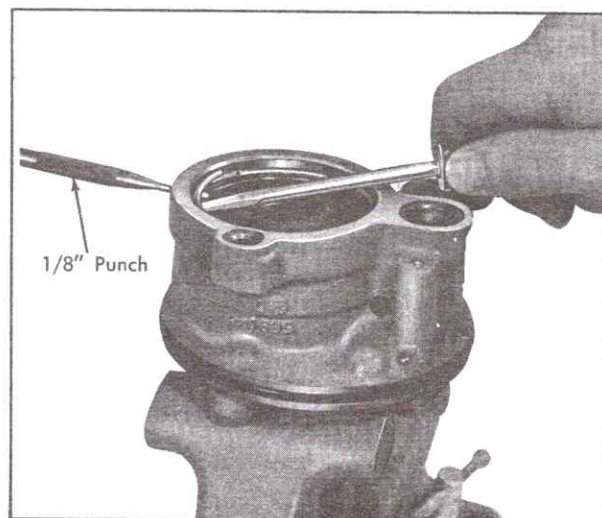

Fig. 9-15 Removing End Plate Retaining Ring
6. Rotate end plate retaining ring so that one end of ring is over hole in housing. Spring one end of ring with punch to allow screwdriver to be inserted to lift ring out, Fig. 9-15.